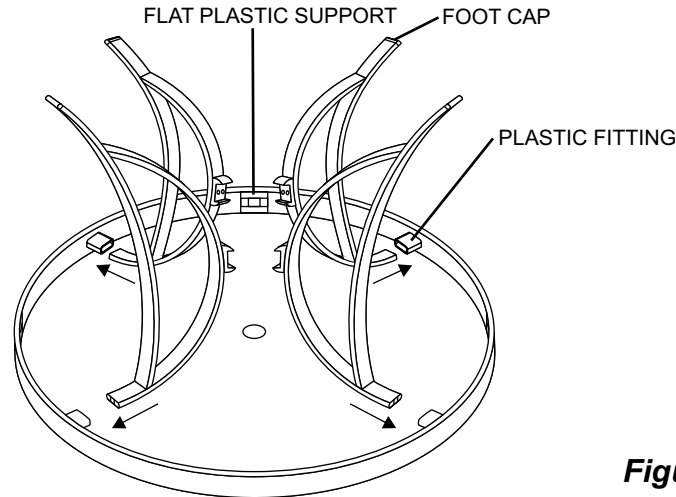

Figure 1
- 1 With the help of another person, place tabletop upside down on a flat, non-abrasive surface to avoid scratching the glass or rim. Note the plastic fittings on the inside of the table rim. These fittings slide. Adjust, if necessary, by sliding the fittings into proper position as shown in the diagram below. If applicable, adjust flat plastic supports so they are spaced evenly throughout the inside of the rim. This will ensure best possible support of the glass in the table. Make sure table bumpers are in place in the small holes on the table legs. Guide each of the table legs into the plastic fittings in the table rim as shown in **Figure 1**.